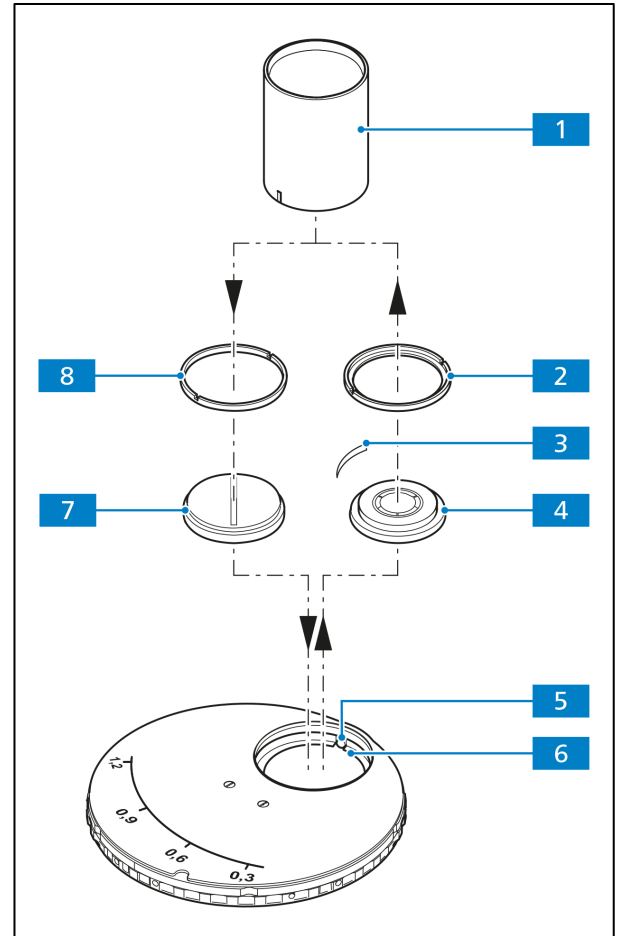
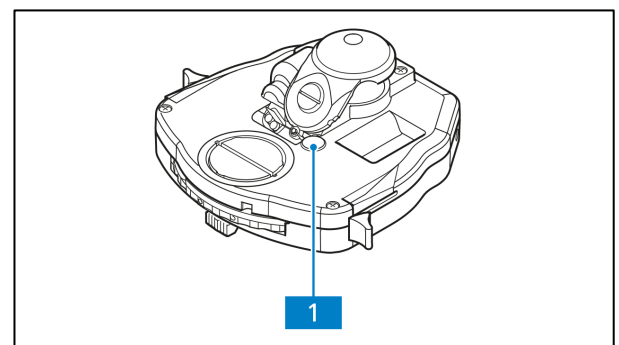

Fig. 3-49 Mounting the slit-diaphragm
Fig. 3-50 Changing the PhC-DIC-PlasDIC diaphragm
- Screw the modulator disk's centering screws (Fig. 3-49/5) with the aid of an Allen wrench back until they stop.
- Unscrew the adapter ring (Fig. 3-49/2) of the PhC diaphragm with the included tool (Fig. 3-49/1).
- Remove the PhC diaphragm (Fig. 3-49/4) and spring (Fig. 3-49/3).
- With the aid of the tool (Fig. 3-49/1), insert the slitdiaphragm (Fig. 3-49/7) with the cams into the orientation grooves (Fig. 3-49/6).
- Screw in the adapter ring (Fig. 3-49/8) included with the slit diaphragm with the aid of the appropriate tool (Fig. 3-49/1).
- Remove the cover (Fig. 3-50/1). Turn the screw (Fig. 3-49/5) with the Allen wrench (AF 1.5) counter-clockwise to the stop. You can now close the aperture diaphragm for contrasting procedures in DIC.